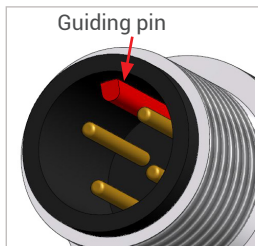
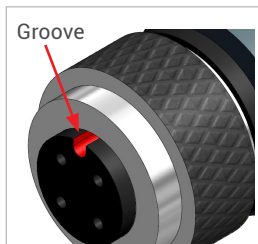

Figure 12
Figure 13
**Attention:** The guiding pin of the connector of the data cable of the WEH® Fueling nozzle must engage in the groove of the connector of the hose set (*Figure 12* and *Figure 13*).